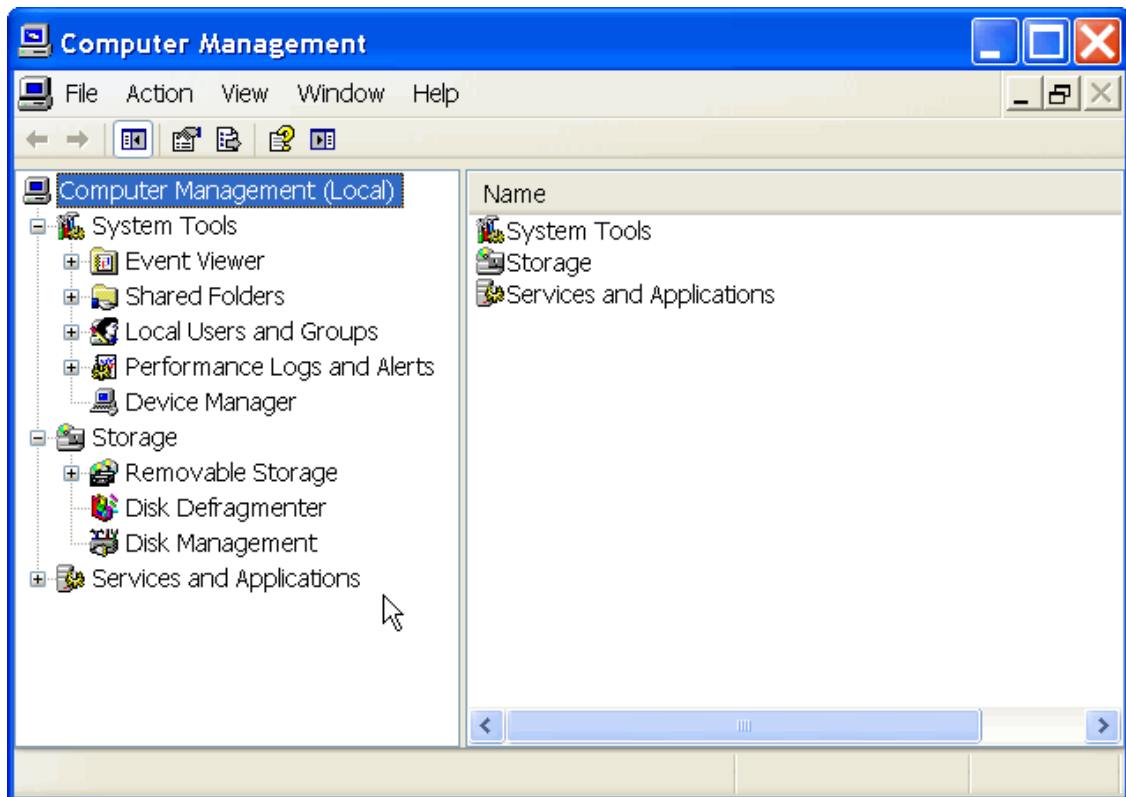

Figure 20. Computer Management Window
10. From the Administrative Tools window, select Computer Management. See the Computer Management window in Figure 20.